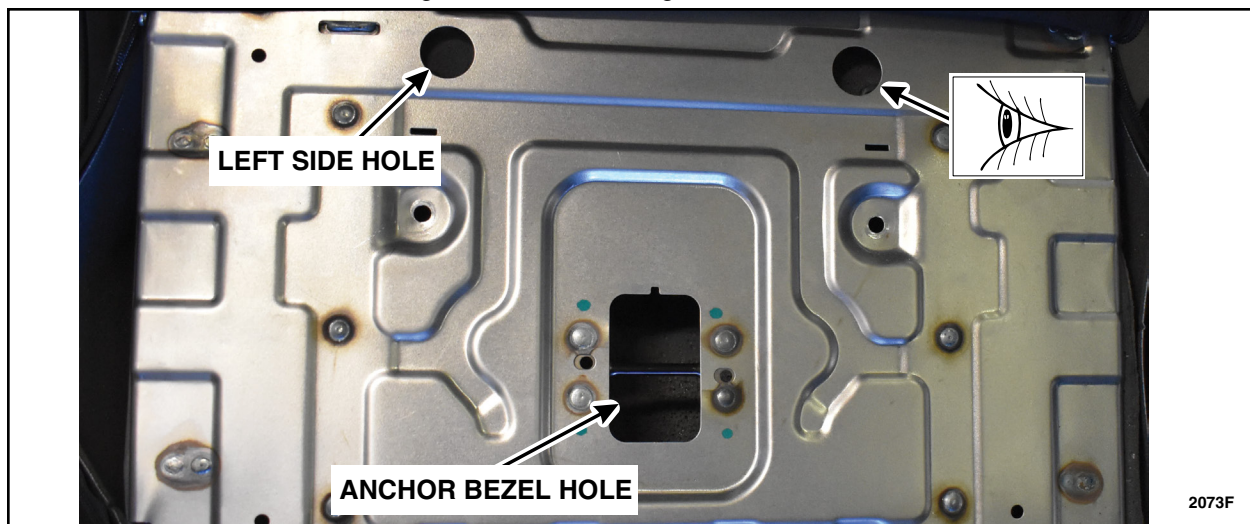

FIGURE 6
6. Shine a flashlight inside of the left side hole or the anchor bezel hole while viewing the two welds on the head rest bracket from the right side hole. See Figure 6.